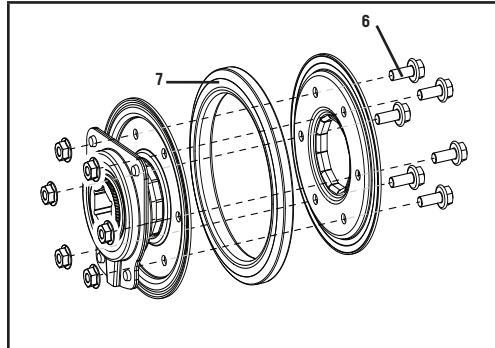

Figure 48
- Unscrew the six M6 × 16 bolts (6) of the friction disc assembly to discard the worn friction wheel rubber ring (7) and replace with a new one (Fig. 48).